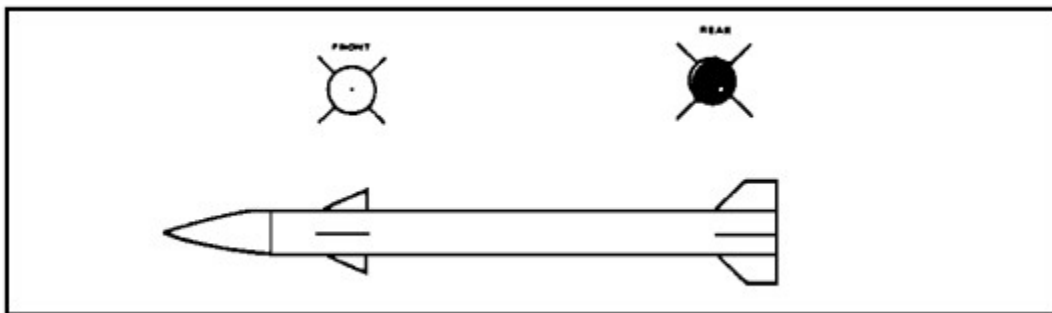

Figure 2-10. Antitank Guided Missile AT-5/SPIRAL.
(2) Capabilities. The SPANDREL has a range of 4,000 meters. Other capabilities are essentially the same as those listed above for the AT-4/SPIGOT, except for time of flight.
(3) Limitations. The limitations of the AT-5/SPANDREL system are precisely those of the AT-4/SPIGOT, namely the requirement for the gunner to keep visual contact and concentration on the target. He can be distracted by fires or smoke screening; the latter can also disrupt the IR link.
(4) Remarks. The Soviets nicknamed the AT-5/SPANDREL system "Konkurs" or "contest." They introduced it around 1974 or 1975, although it was not displayed for public viewing until the Red Square Parade of 1977. The BRDM-2-mounted AT-5 system will eventually replace all vehicle-mounted AT-2 and AT-3 systems in the Soviet Army. The AT-5/SPANDREL system is currently operational in the Warsaw Pact countries.
e. Antitank Guided Missile AT-6/SPIRAL. The AT-6/SPIRAL Guided Missile (shown in Figure 2-10) is discussed in the following paragraphs.
(1) Description. The AT-6/SPIRAL is a tube-launched, SACLOS, ATGM mounted on the Mi-24/HIND E and F helicopters. It replaces the heliborne AT-2/SWATTER variants found on previous HIND models. Normally, there are I-shaped launch fixtures for two SPIRAL launch tubes on each wingtip of the HIND E and F. However, the HIND E and F may carry a second AT-6 launch platform on the outboard universal pylon on each wing. This allows them to mount a total of eight SPIRAL missiles. Also, some HIND E and F models have "stacked" AT-6 launch platforms on the wingtip pylons for a possible total of 16 SPIRALs. Unlike the AT-4/SPIGOT and AT-5/SPANDREL, this missile system is not wire guided.